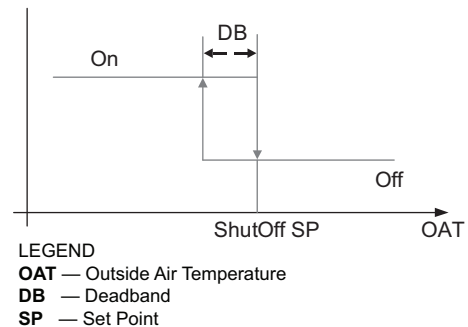

Fig. 71 — Hysteresis Settings
Hysteresis setting (DB) defaults to 2°F (–17°C). See Fig. 71.